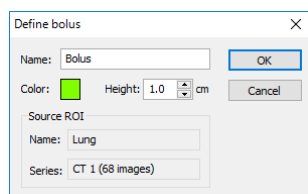

Figure 284 – Define bolus dialog
3. The **Define bolus** dialog (see Figure 284) is then displayed in which you carry out the following: